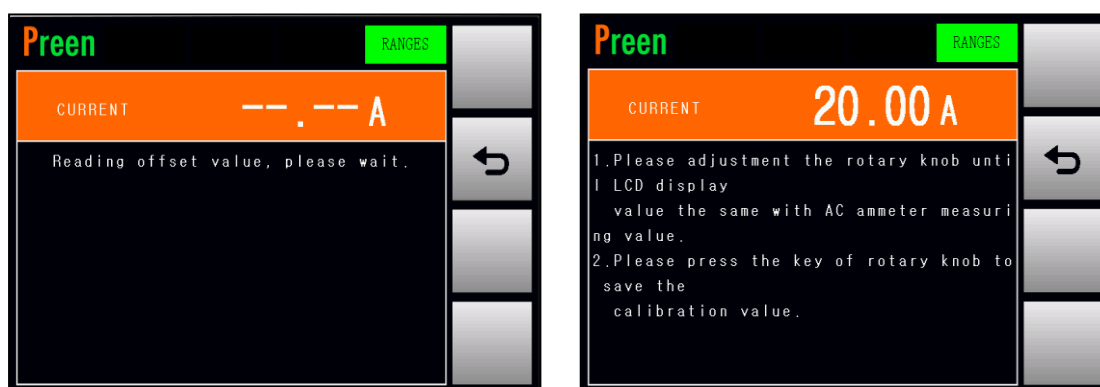

Figure 4-8-2 Enable the calibration of the output socket current.
3. Press the output & reset button on the front panel to enable the calibration of the peak current (refer to Figure 4-8-2), and then the product will start to output the voltage which is closed to 100V.